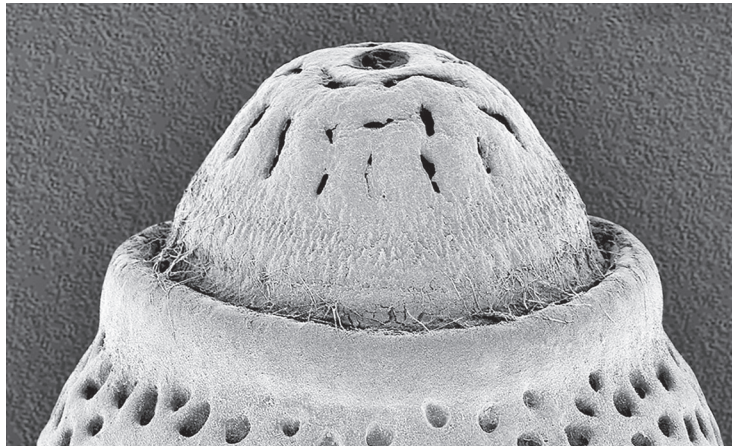

Fig. 2.1
- 2 Fig. 2.1 is a photomicrograph of part of an egg case from a species of stick insect, *Acrophylla titan*.
- (a) (i) Draw a large diagram of the part of the egg case shown in Fig. 2.1.